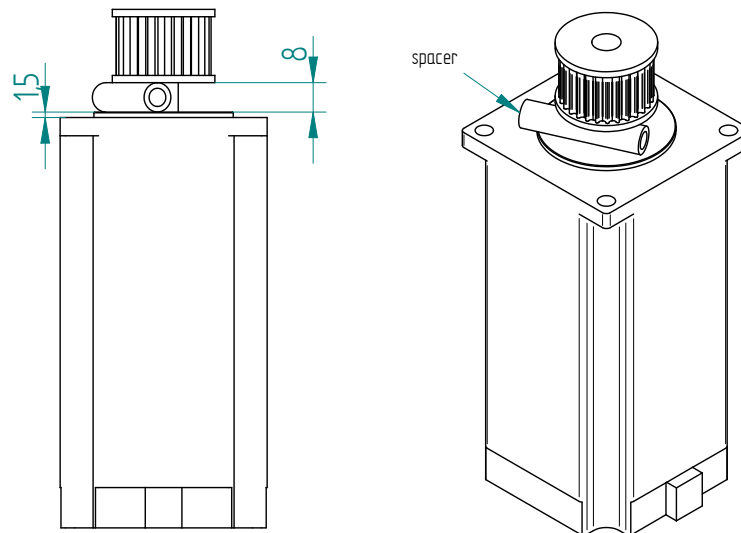

Figure 1.25: Position of the pulley on the motor shaft
5. Press the **pulley** onto the **spacer**, using a **spacer** to ensure correct positioning (See Figure 1.25, page 46).